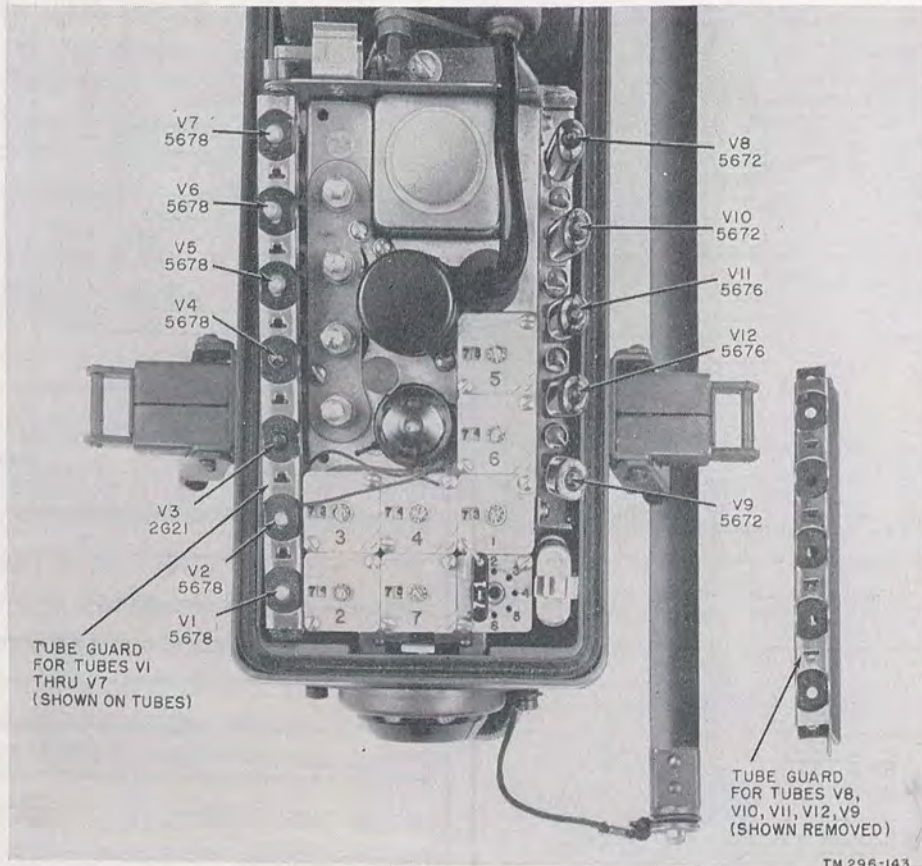

Figure 25. The guard removed.
f. Check to see that the tube guards (fig. 25) are on the tubes.
- (1) To change a tube, remove the tube guard (fig. 25). Press down one end of the tube guard until it is free of the catch; then press down on the other end of the guard and pull away from